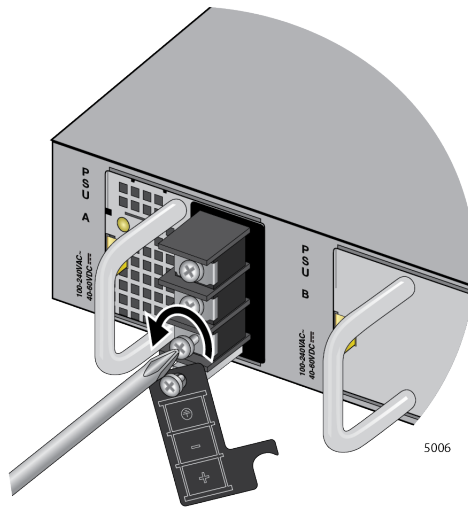

Figure 44. Loosening the Ground Screw
4. Loosen the ground screw with a Phillips-head screwdriver. Refer to Figure 44.